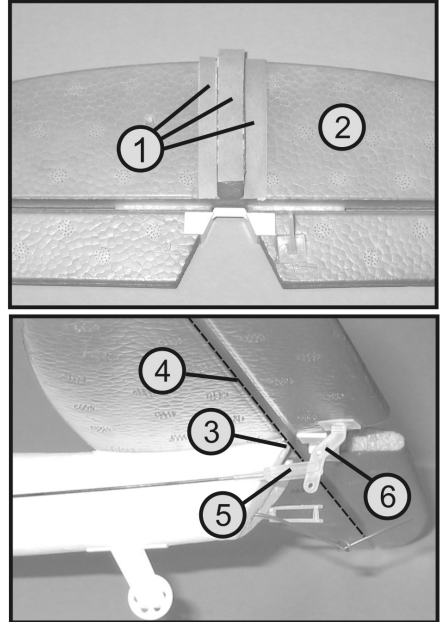

Figure 5
- If the elevator unit (1) is angled slightly upwards or downwards, detach the fork head from the rudder horn (see figure 5, pos. 5) and adjust the required length of the link rods by twisting the fork head.
- The link rod of the fin unit (2) has to be adjusted according to the same scheme like the elevator unit if required.